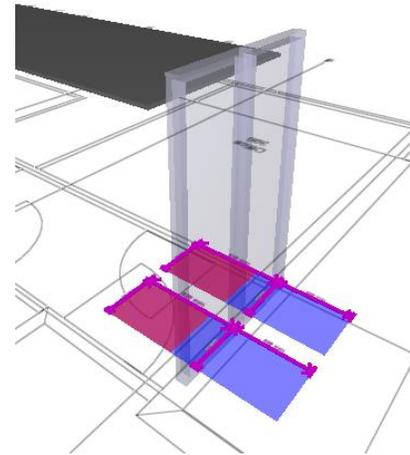

Figure 62 Suspended slab in front of windows
- (3) You can see a suspended slab component in front of two windows. There is a shadow showing dimensions of how much free space was required and how close the obstacle is (see Figure 62).